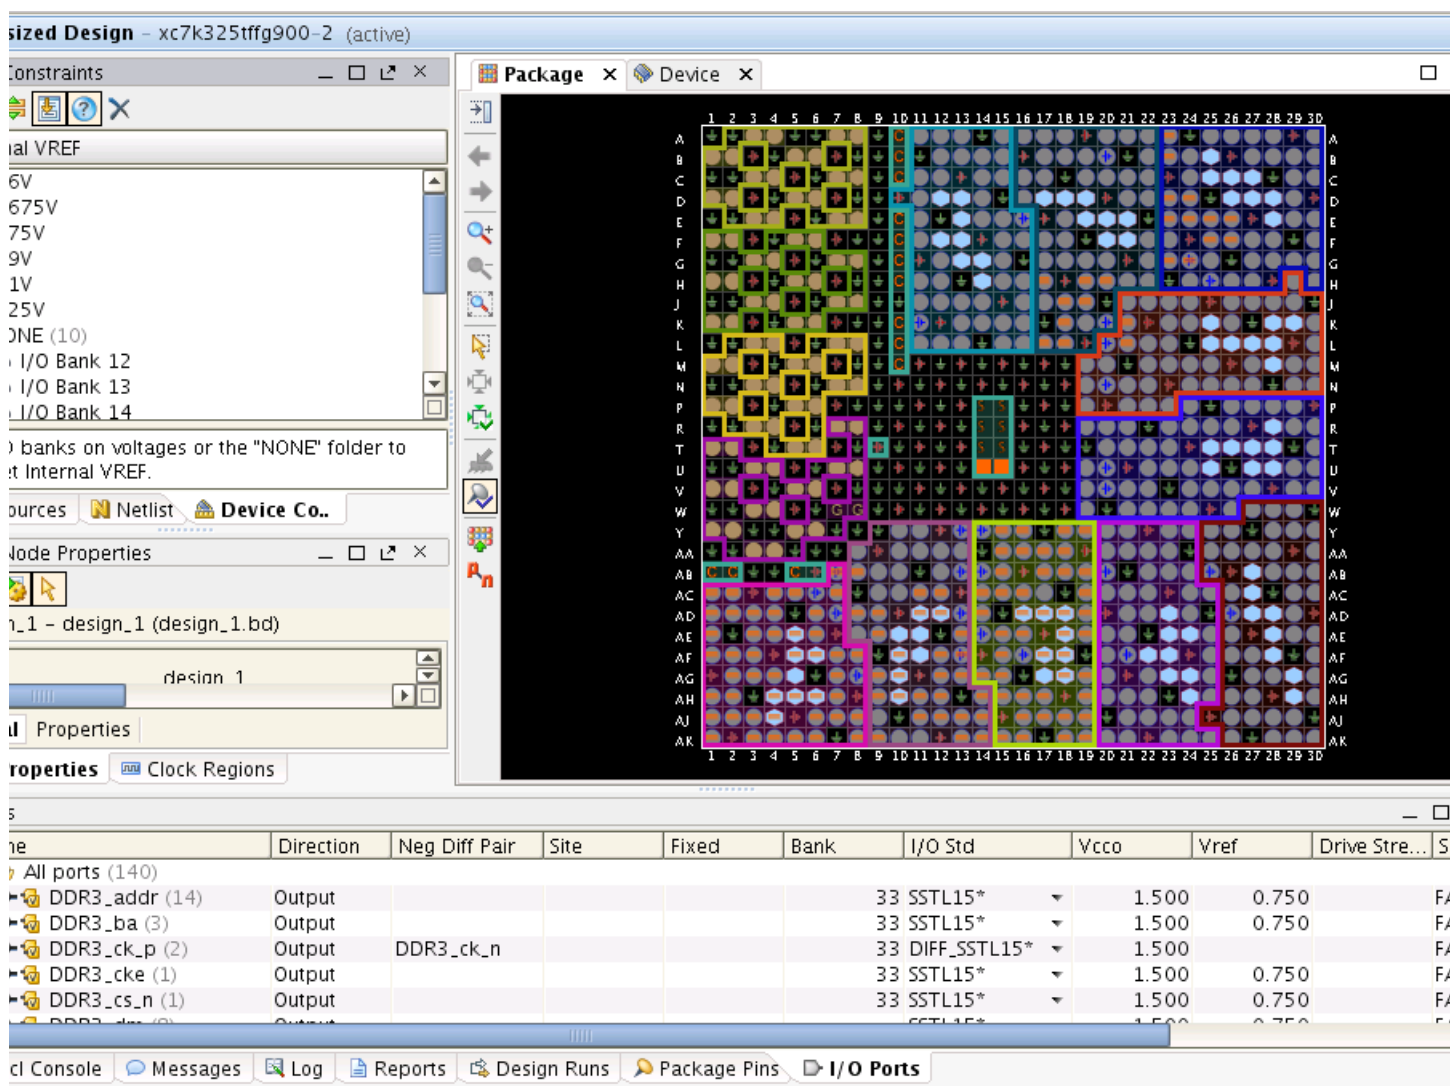

Figure 61: I/O Pin Planning Layout
- Opening the synthesized design and selecting **Layout > I/O Planning** to display the I/O Planning view (Figure 61). This tool can be used to set location for non-DDR3 related I/O pins.